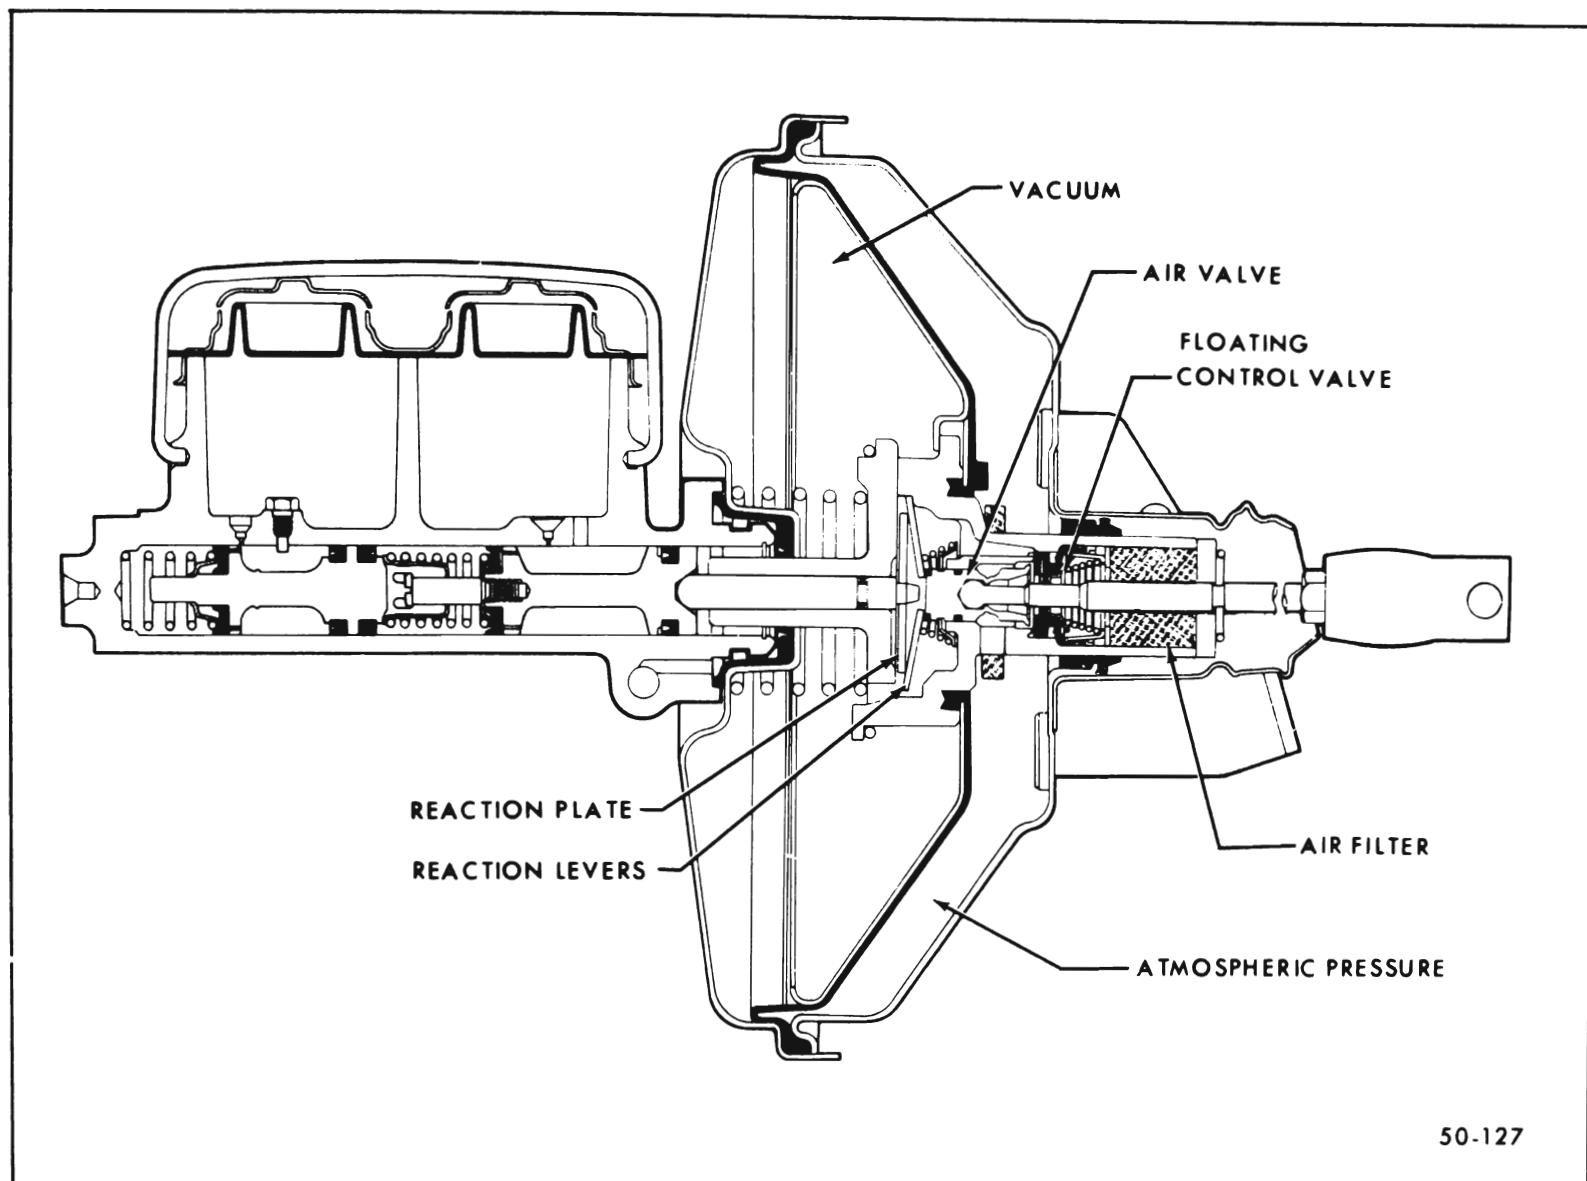

Figure 50-76 Power Brake Unit - Applying Position
2. Applying Position. As the pedal is depressed, the push rod carries the air valve away from the floating control valve. See Figure 50-76. The floating control valve will follow until it is in contact with the raised seat in the power piston. When this occurs, the vacuum is shut off to the rear side of the power piston and air under atmospheric pressure rushes through the air filter and travels past